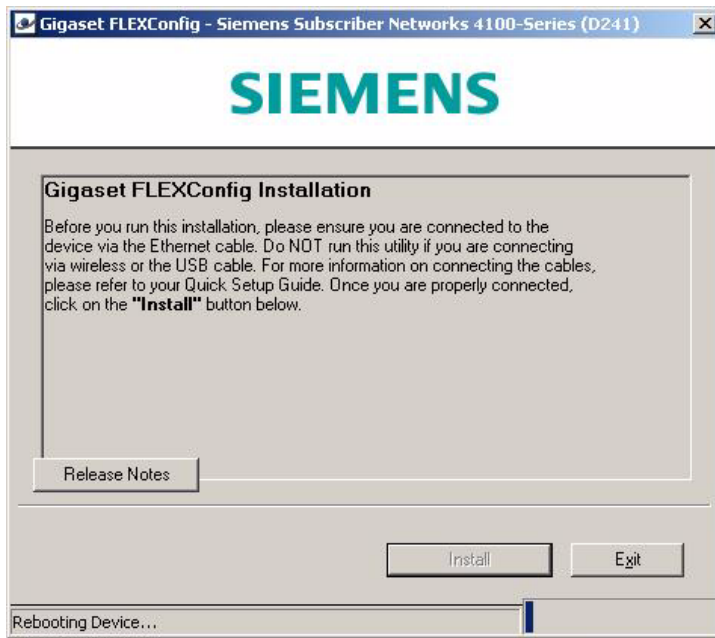

Figure 108: Rebooting Device message
6. The system displays the rebooting message as shown in Figure 108.